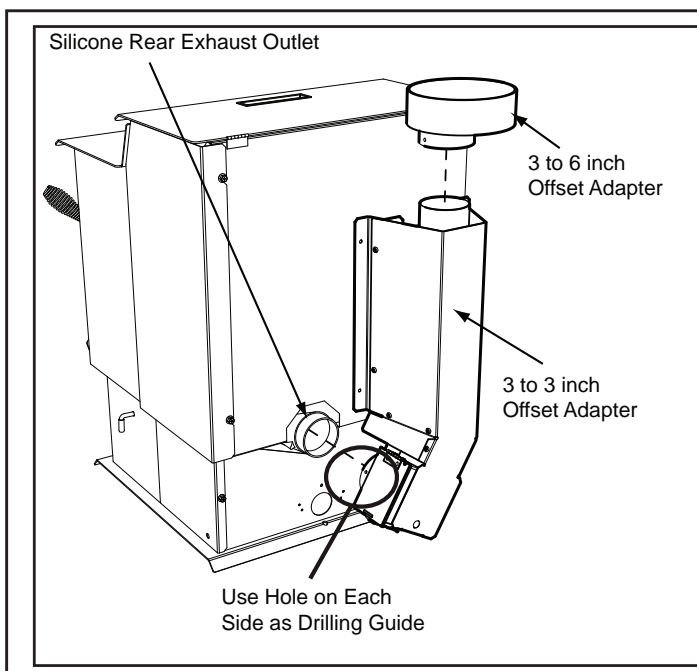

Figure 39.1
1. Put a layer of high temperature silicone on the 3 inch (76mm) exhaust outlet. **Do not put silicone inside of pipe. Figure 39.1**
2. Slide the top vent adapter onto the rear exhaust outlet and adjust the assembly to a vertical position. **Figure 39.1.**
5. Drill 2 holes with #26 drill bit through the rear exhaust outlet using the 2 holes already in the short horizontal pipe in the top vent adapter as a guide. Install the 2 screws. **Figure 39.1.**
1. Put a layer of high temperature silicone on the 3 inch (76mm) exhaust outlet. **Do not put silicone inside of pipe. Figure 39.1.**